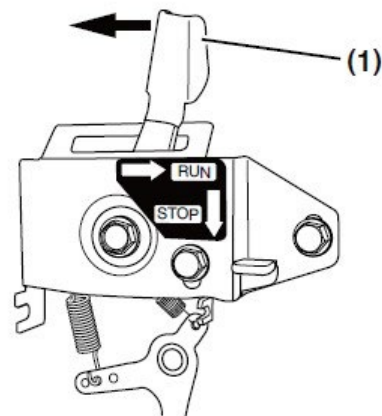

Figure 15
2. If your engine speed control is similar to **Figure 15** slide the engine speed control lever (**Figure 15, (1)**) in the direction shown to adjust the engine speed.